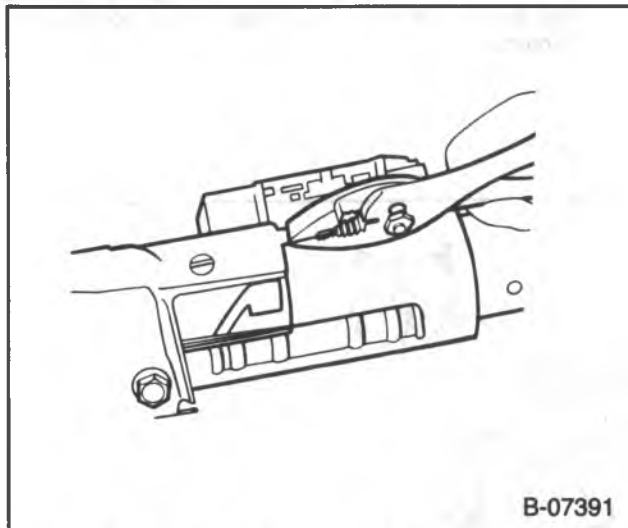

Figure 12 — Turn Signal Wire Protector Removal
7. Wire protector. Pull downward out of the column with pliers using the tab provided (figure 12).